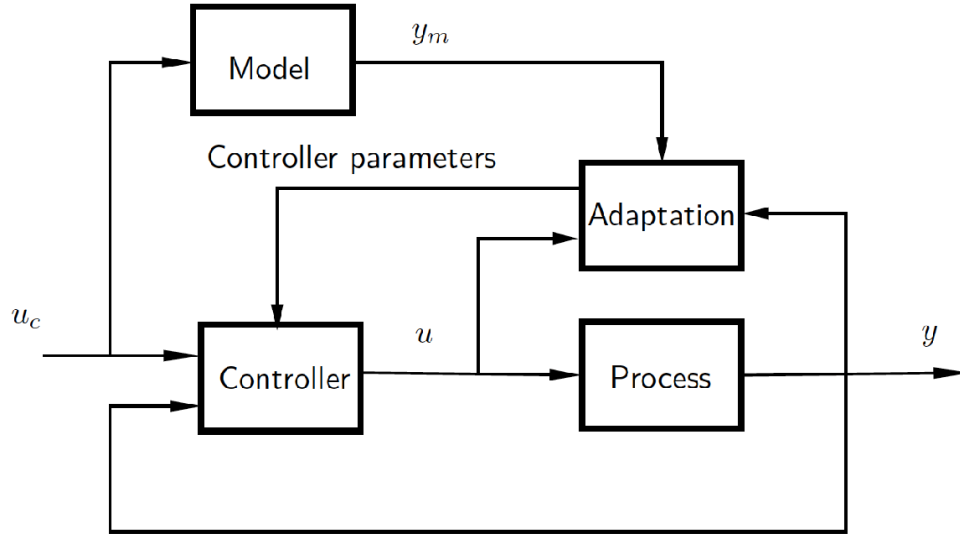

Figure 1. Block diagram of a model reference adaptive system.
The **model reference adaptive system** (MRAS) is an example of adaptive scheme in which the specifications of performance are expressed in terms of a reference model, which gives the desired response to a command signal. Due to this property, MRAS may be regarded as an adaptive servo system. The block diagram is illustrated in Figure 1. The controller can be thought of as having two loops. The inner loop is an ordinary feedback loop consisting in the process and a controller. The outer loop is another feedback loop which adjusts the controller parameters so that the error computed as the difference between the output of the system and the output of the reference model is small. The key problem with MRAS is to determine the adjustment mechanism such that a stable system which brings the error to zero is obtained.
1. Implement the feedback control in Figure 1 in the Task1_MIT.mdl model using Library_1 by dragging desired blocks/components.